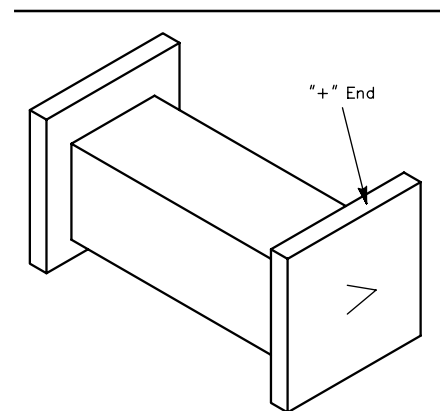

Fig 7—Tantalum-chip capacitor marking.
8. The three, 6.8- μ F power-supply-filter chip capacitors that I used have their positive ends marked with a small point; see Fig 7. Reversing them will apply the voltage backwards, destroying them. Yes, I did this, too. They short, and then smoke. You'll know if you install them backwards the moment you apply power! Electrolytic chip capacitors made by other vendors may be marked differently. Verify their polarity before soldering them onto the board. To keep the cost down, you can also use radial-lead electrolytic capacitors at these three locations. I had a large stock of 6.8- μ F chip capacitors, so I used them.